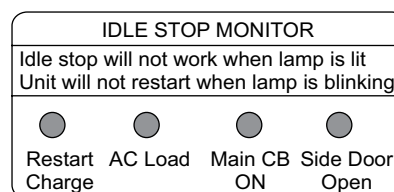

Figure 51. Idle Stop Monitor
- The idle stop function **will not work** if any of the lamps referenced in Figure 51 are **ON** or **BLINKING**.
- If any of the status lamps as referenced in Figure 51 are **ON**, correct the problem before using the idle stop function.